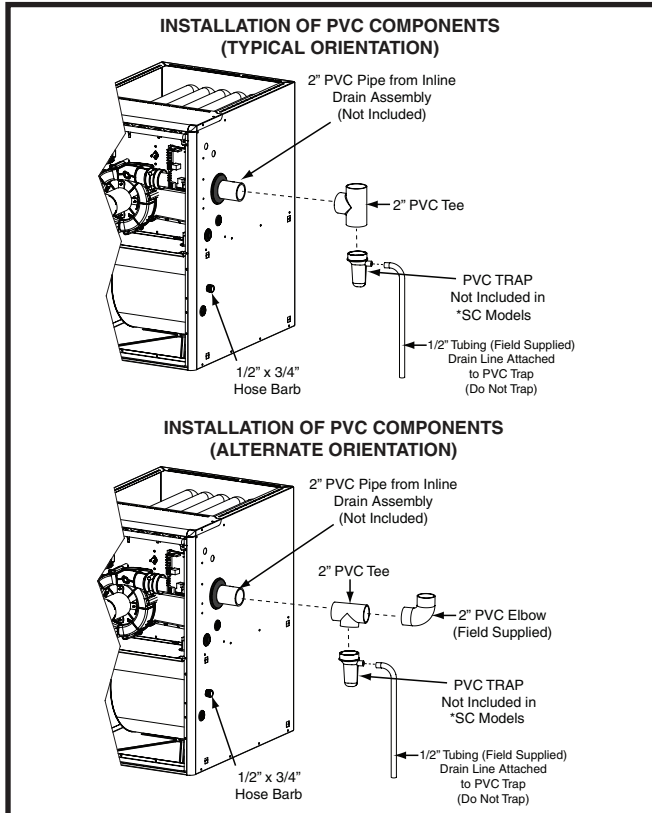

Figure 19. PVC Components
- The 2" PVC components shown in Figure 19 are not provided in the extra parts bag for *SC models. However the PVC Trap can be purchased separately through your local distributor.
The 2" PVC tee, reducer, PVC Trap and 1/2" X 1/2" hose barb are used when the inducer is rotated to vent out thru the left or right side of the furnace cabinet. See Figure 19.
1. Install the PVC Tee vertically on the 2" vent pipe that is extending out the side of the cabinet. Permanently bond them together using appropriate primer and cement. Refer to the typical orientation shown in Figure 19.
1. Install the 2" PVC Tee horizontally on the 2" vent pipe that is extending out the side of the cabinet. Permanently bond them together using appropriate primer and cement. Refer to the alternate orientation shown in Figure 19.